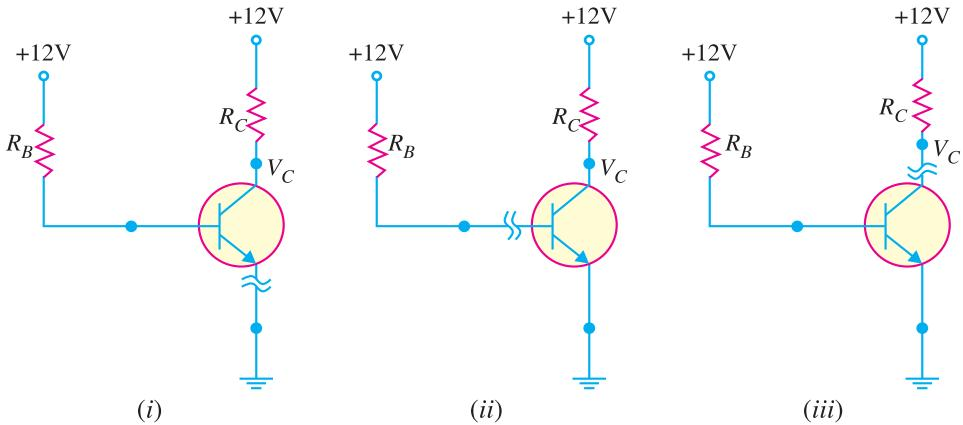

Fig. 8.28
**Example 8.21.** Fig. 8.28 shows the short circuit failures in a transistor. What will be the circuit behaviour in each case ?
**Solution.** Fig. 8.28 shows the short circuit failures in a transistor. We shall discuss the circuit behaviour in each case.
**(i) Collector-emitter short.** Fig. 8.28 (i) shows a short between collector and emitter. The emitter diode is still forward biased, so we expect to see 0.7V at the base. Since the collector is shorted to the emitter,  $V_C = V_E = 0V$ .
**(ii) Base-emitter short.** Fig 8.28 (ii) shows a short between base and emitter. Since the base is now directly connected to ground,  $V_B = 0$ . Therefore, the current through  $R_B$  will be diverted to ground and there is no current to forward bias the emitter diode. As a result, the transistor will be **cut-off** and there is no collector current. So we will expect the collector voltage to be 12V.
**(iii) Collector-base short.** Fig. 8.28 (iii) shows a short between the collector and the base. In this case, the emitter diode is still forward biased so  $V_B = 0.7V$ . Now, however, because the collector is shorted to the base,  $V_C = V_B = 0.7V$ .